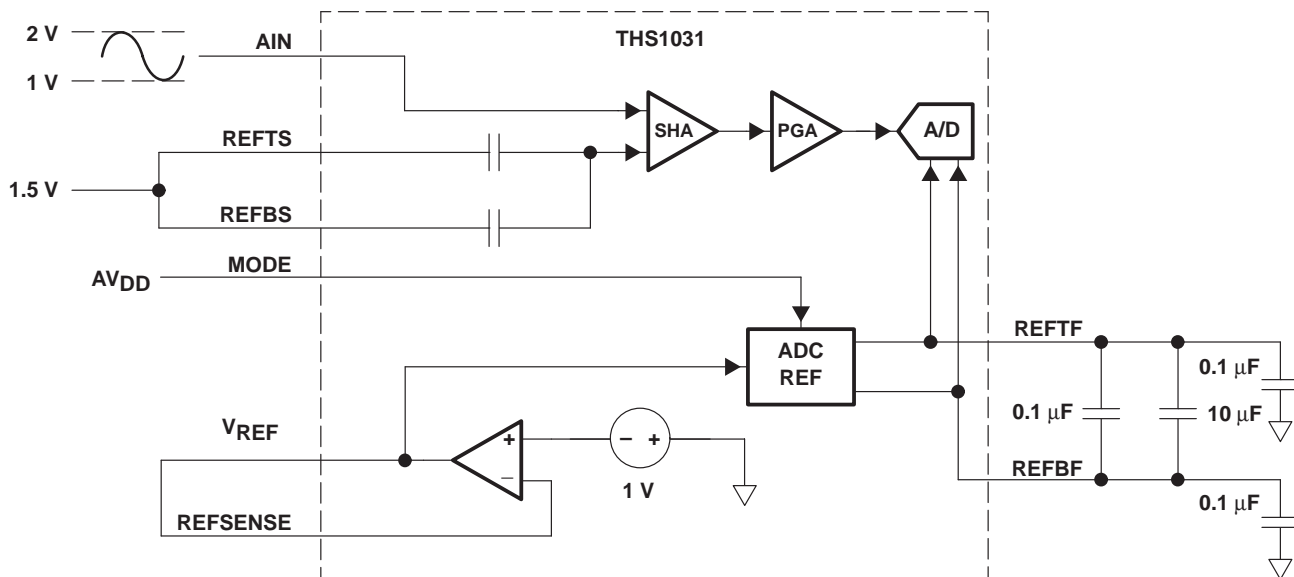

Figure 17. External Input Common Mode
- Internal ADC Reference Mode With External Input Common Mode:** The input common mode is supplied to pins REFTS and REFBS while connected together. The input signal should be centered around this common mode with peak-to-peak input equal to the voltage on the  $V_{REF}$  pin. Input can be either dc-coupled or ac-coupled to the same common mode voltage (Figure 17) or any other voltage within the input voltage range.